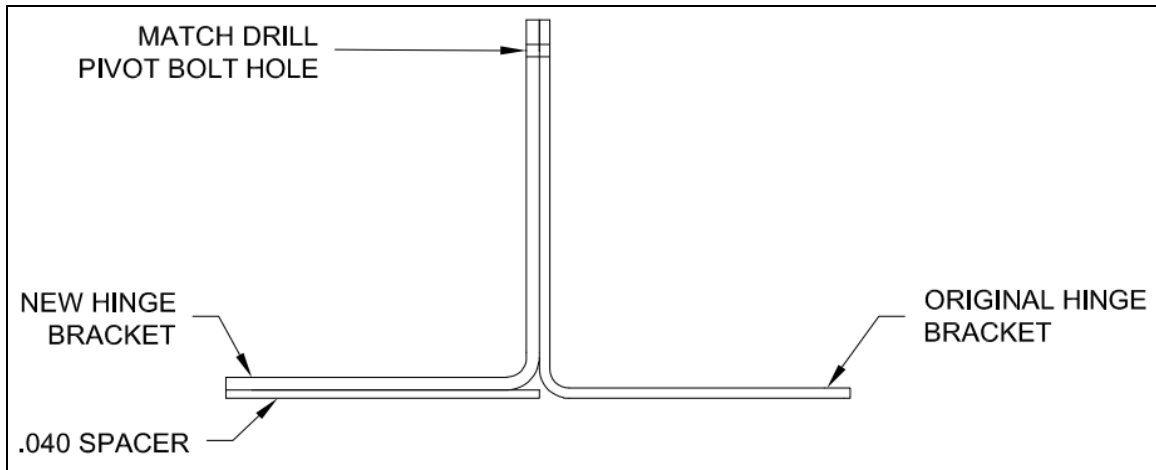

FIGURE 7: MATCH DRILLING PIVOT BOLT HOLE
Step 15 (RV-3): Place a new hinge bracket and a .040 thick spacer, that is fabricated to fit the same footprint as the hinge bracket, onto a flat surface. See Figure 7.
Step 16 (RV-3): Clamp the triangular flange of the new hinge bracket and sheet assembly to a corresponding original hinge bracket. See Figure 7.
Step 17 (RV-3): Match drill the hole for the AN3 pivot bolt that goes through the elevator rod end. See Figure 7.
Step 27 (RV-4): Place a HS-00717B hinge bracket and a .040 thick spacer, that is fabricated to fit the same footprint as the hinge bracket, onto a flat surface. See Figure 7.
Step 28 (RV-4): Clamp the triangular flange of the HS-00717B hinge bracket and sheet assembly to a corresponding original hinge bracket. See Figure 7.
Step 29 (RV-4): Match drill the hole for the AN3 pivot bolt that goes through the elevator rod end. See Figure 7.
Step 37 (RV-6): Place a HS-00717B hinge bracket and a .040 thick spacer, that is fabricated to fit the same footprint as the hinge bracket, onto a flat surface. See Figure 7.
Step 38 (RV-6): Clamp the triangular flange of the HS-00717B hinge bracket and sheet assembly to a corresponding original hinge bracket. See Figure 7.
Step 39 (RV-6): Match drill the hole for the AN3 pivot bolt that goes through the elevator rod end. See Figure 7.